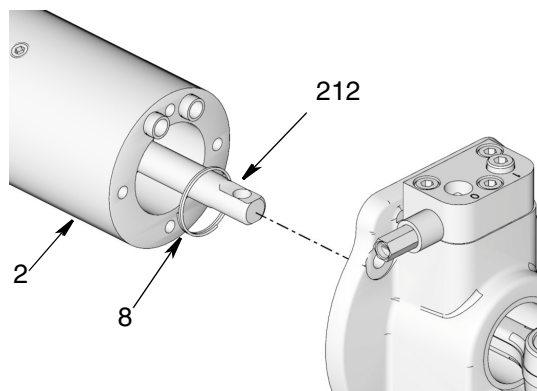

FIG. 25
12. Separate displacement rod (212) from connecting rod (102) and separate these sections. Put section (102) in a safe place. You will need it for reassembly (FIG. 25).